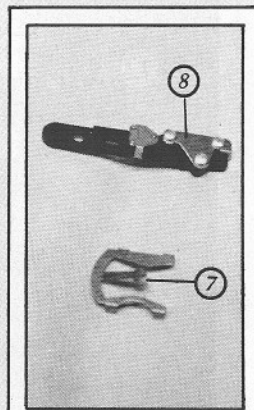

Fig. 6: Blower Speed Switch Detail: vacuum valve tension spring (7) fits on vacuum valve drive with blower speed switch arm (8).
Remove the four screws securing the top plate to the upper housing and raise the top plate for access to the drive assembly, (6) on Fig. 5. The red and black servo motor wires prevent complete separation of the top plate from the drive assembly. Carefully remove the vacuum valve tension spring (7) and blower speed switch arm (8) from the drive assembly (Fig. 6).